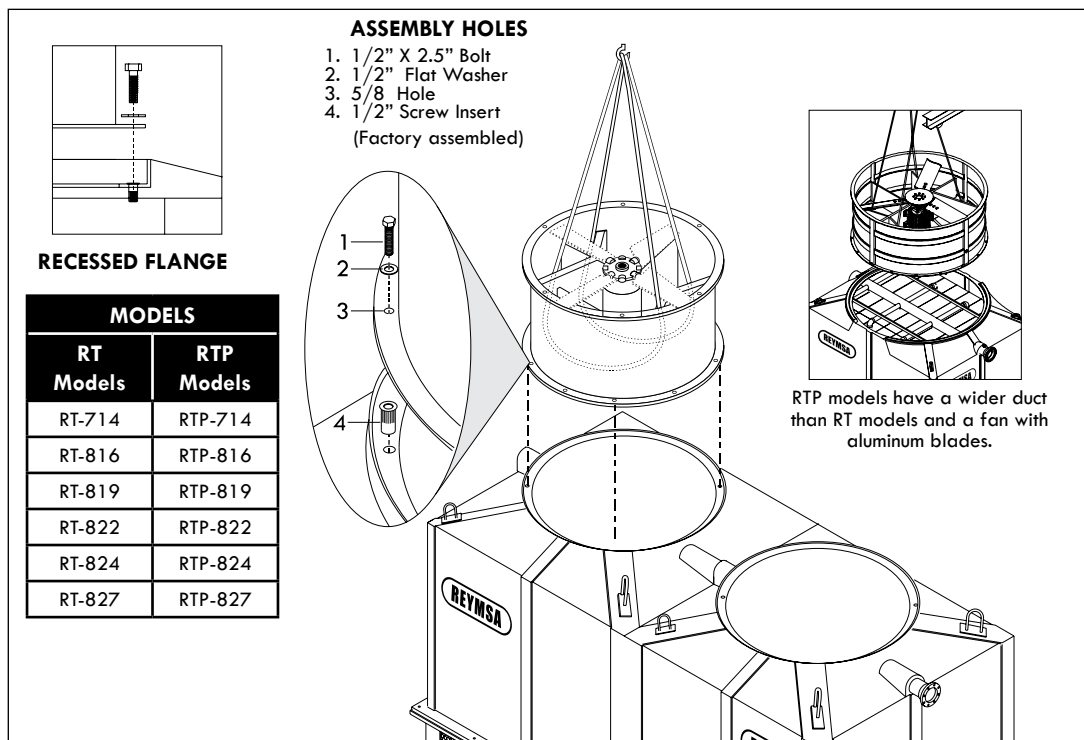

Figure A-21: Fan Duct assembly for a Two Fan Tower
- N.** Then cradle/straddle the fan support with the straps (as shown in figure A-21) so you can lift the fan duct with a crane and assemble it.
- O.** Identify each fan duct, they are labeled with a number on the inside of the lower edge. For a correct installation, this number must match the number on the distribution manifold of the corresponding body section. Now place fan duct 1 on the correspondent receiving flange on top of the Tower; make sure the bolt holes and the marks inside the fan duct and the receiving flange are aligned (Figure A-21 and A-22). Secure it with the stainless steel nut and bolt sets supplied by REYMSA.